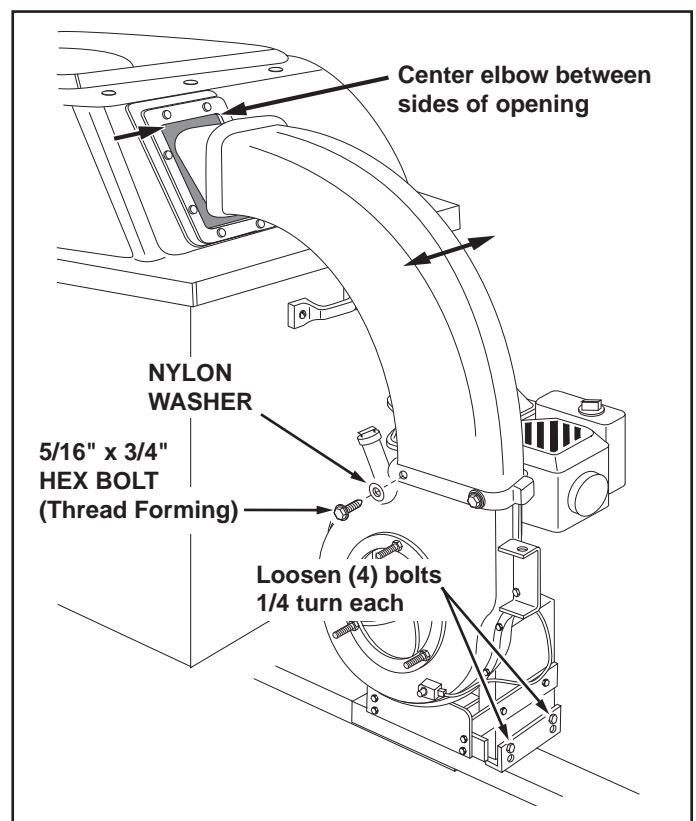

FIGURE 17
29. Assemble the elbow to the impeller housing using four 5/16" x 3/4" self tapping hex bolts and four nylon washers. Push while turning to help start the bolts into the unthreaded holes. **Tighten.** See figure 17.